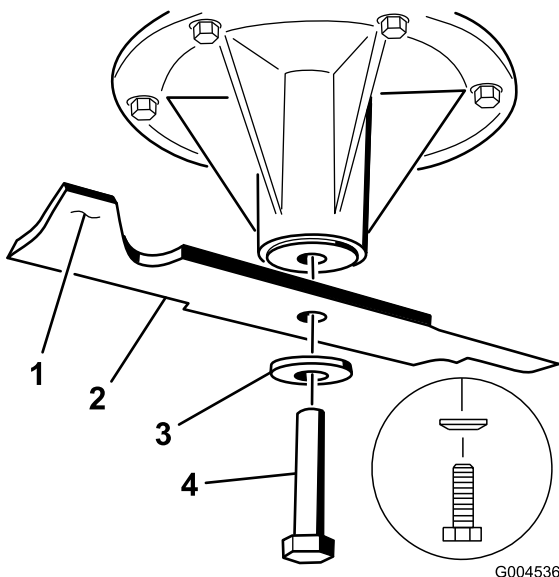
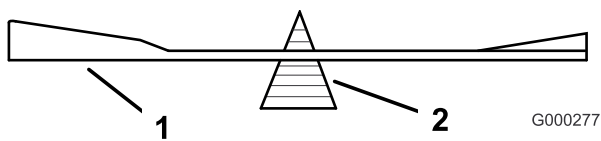

Figure 62
Figure 65
2. For 40 and 48 inch mower decks, remove the blade bolt, curved washer, and blade from the spindle shaft (Figure 62).
2. Check the balance of the blade by putting it on a blade balancer (Figure 65). If the blade stays in a horizontal position, the blade is balanced and can be used. If the blade is not balanced, file some metal off the end of the sail area only (Figure 62). Repeat this procedure until the blade is balanced.
1. Install the blade onto the spindle shaft (Figure 62).
- Important:** The sail part of the blade must be pointing upward, toward the inside of the mower to ensure proper cutting (Figure 62).
2. For 40 inch and 48 inch mower decks, install the blade, curved washer, and blade bolt (Figure 62).